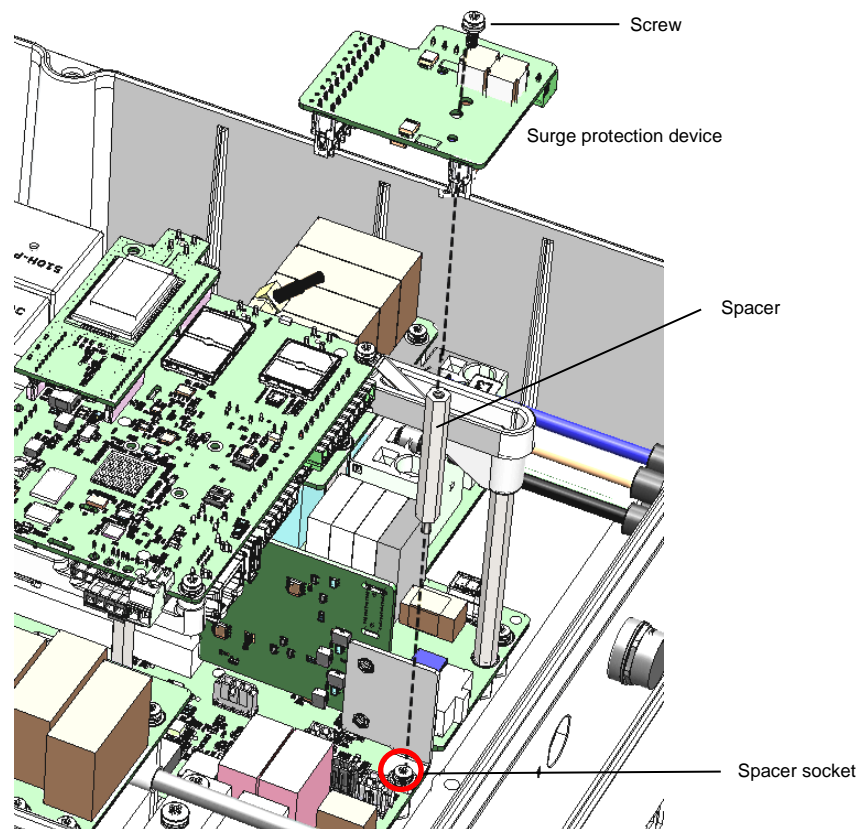

Figure 4: Installing the Standoff Spacer
8. Tighten the screw securing the surge protection device (torque 1.1 N*m/ 0.8 lb*ft), as shown in Figure 4.